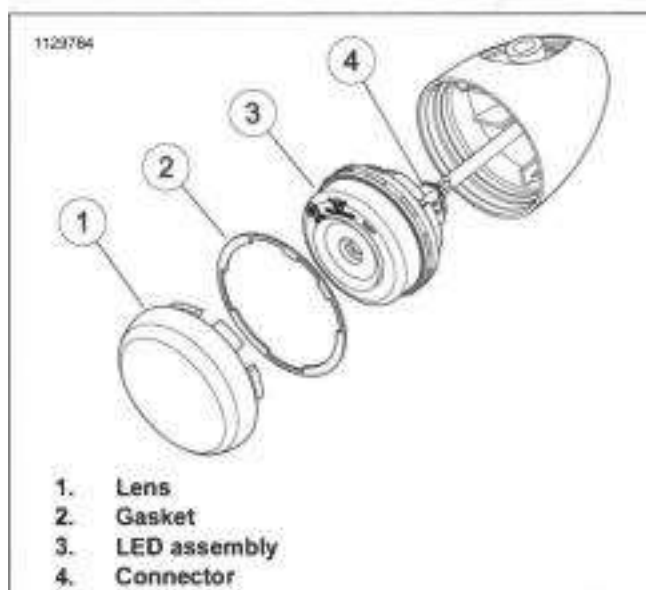

Figure 7-78. LED Turn Signal Lamp
1. See Figure 7-78. Remove lens (1).
2. Remove LED assembly (3).
3. Disconnect connector (4).